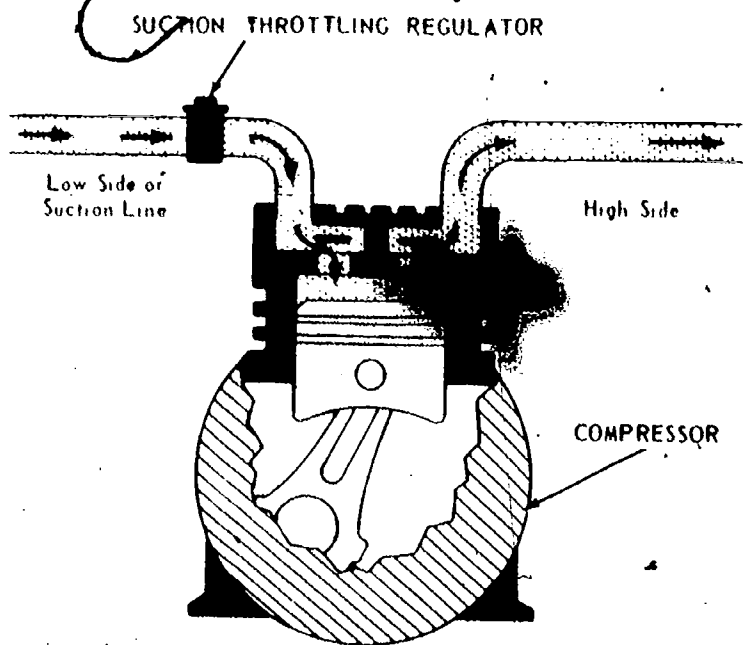

Fig. 34 — System Regulated By Suction Throttling
**Suction throttling** is any type of control used to regulate the flow of refrigerant from the evaporator to the compressor. This control is located at some point between the tail pipe of the evaporator and the compressor in the low side or suction line as it is commonly called (Fig. 34). These devices are used mainly on automotive systems.